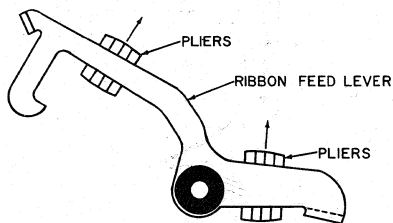

Figure 66
4. If the throw is too long (choking off), or the ribbon feed levers do not feed equally, the ribbon feed levers should be formed. This should be done with two pair of pliers, increasing or decreasing the distance between the lugs as required (Figure 66).